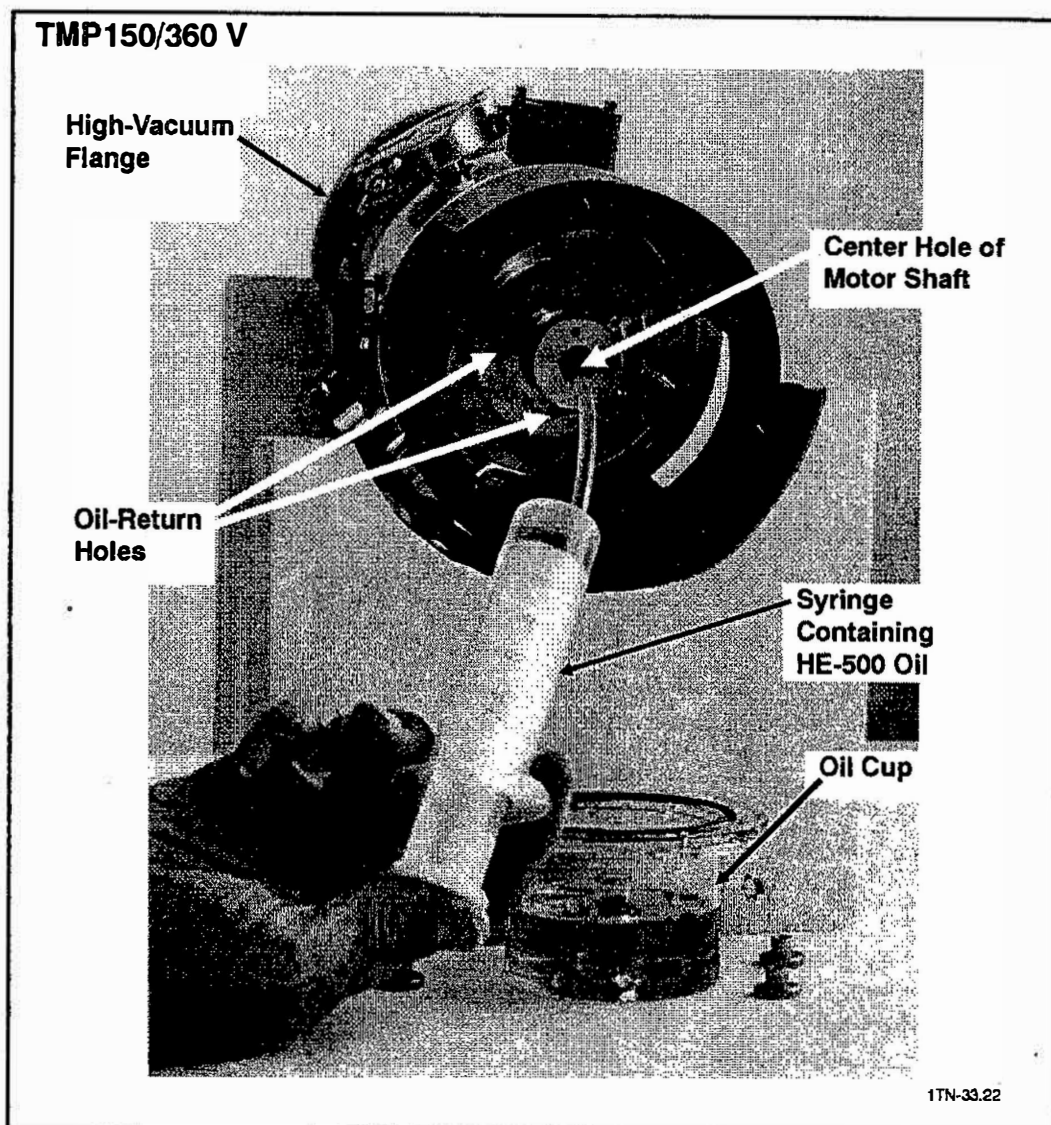

Figure 2-1. Priming the TMP150/360 V Pump Models
2. Fill a one-way syringe with HE-500 oil. Cut a piece of tubing so that its one end fits tightly over the tip of the syringe and its other end fits tightly over the small center hole in the Turbopump's shaft as shown in Figure 2-1. If a syringe isn't available, you can use a **clean** squeeze bottle or oil can.
3. Tilt the turbopump as shown in Figure 2-1 so that one of the two oil-return holes is at the lowest position. Inject HE-500 oil from a syringe or squeeze bottle up into the motor shaft's center hole until you see oil draining down from the lower oil-return hole (see Figure 2-1). It's OK to tilt the TMP150/360 V greater than 15° when the oil cup is removed; however, don't tilt it so that its high-vacuum flange is facing down.